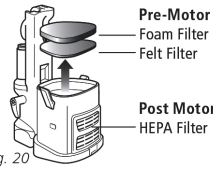

Fig. 20
- 2 Pull the 2 filters out from the top of the motor base. (Fig. 20)